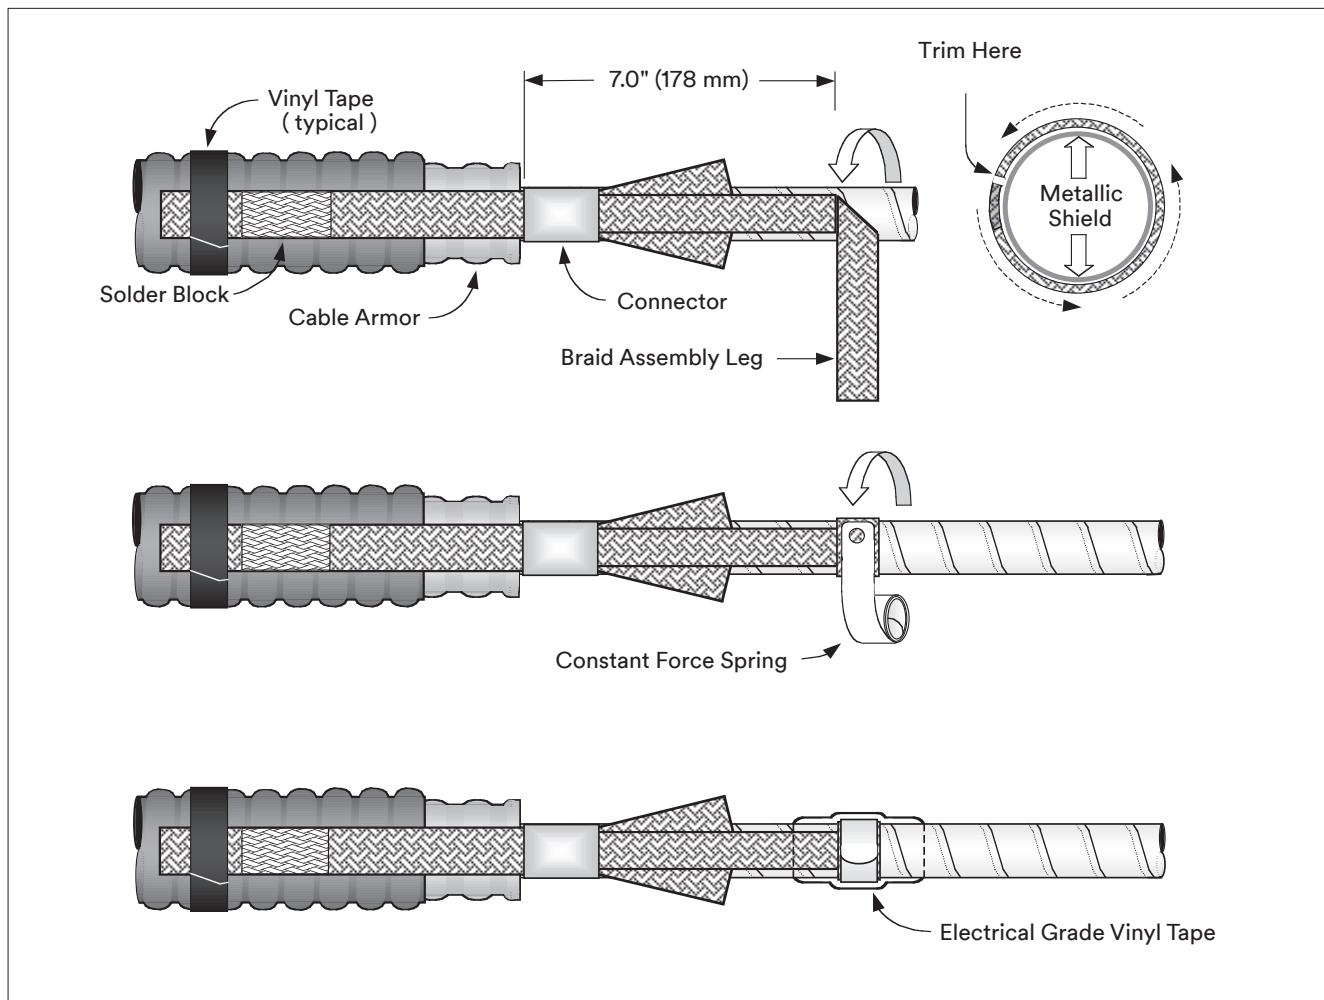

Figure 2
3.1 Position ground braid assembly over cable with assembly connector aligned to edge of armor (Figure 2).
Hint: Use temporary vinyl tape wraps as needed to assist in holding braid assembly to cable (Figure 2).
- Short (Center) Braid Tail – Position ground braid assembly as shown (Figure 2). Wrap short, center ground braid tail around metallic shield of first cable core. Trim excess braid length to prevent overlap (Figure 2). Secure ground braid to cable metallic shield using small constant-force spring (Figure 2). Spring and braid leg should be wrapped in the same direction. Cinch (twist with hand) constant-force springs to tighten.
3.3 Apply two highly-stretched half-lapped layers of electrical grade vinyl tape over constant-force springs (Figure 2).